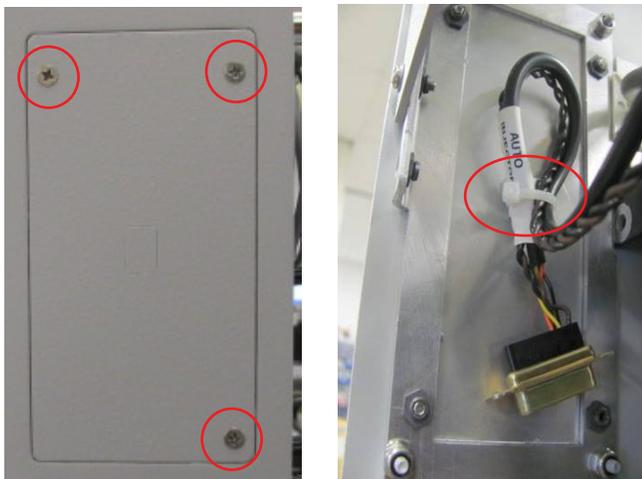

Figure 1: Cover panel (L) and cable tie (R)
3. Remove the cover panel on the right side of the instrument (Figure 1, L).
4. Carefully cut the plastic tie securing the AutoInjector power supply cable to the back of the panel (Figure 1, R).